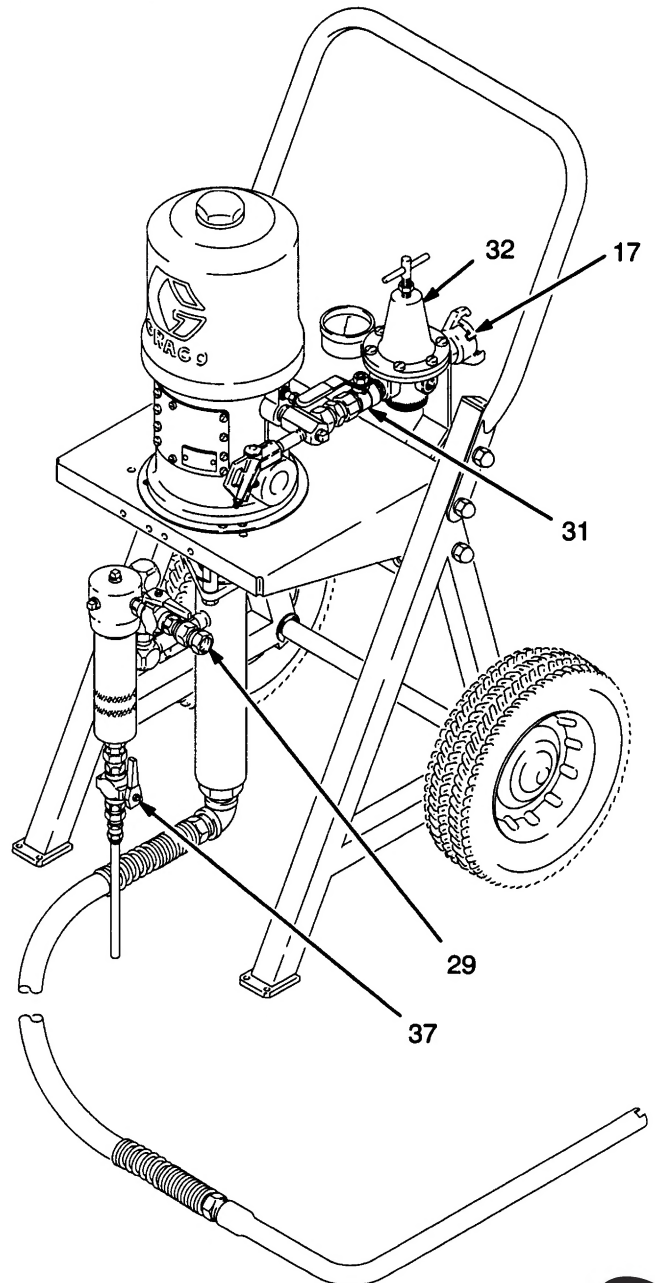

Fig. 2
Refer to Fig. 2. Connect one end of the fluid hose (7) to the filter outlet swivel (29) and the other to the fluid inlet of the gun (9).